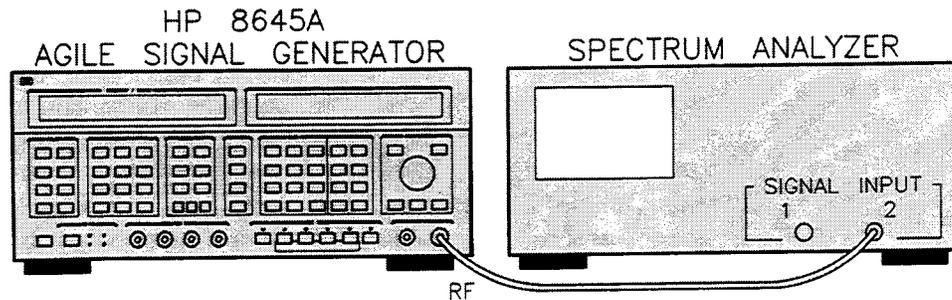

Figure 2-3. Equipment Setup for FM Procedure #1.
1. Connect the HP 8645A to the Spectrum Analyzer as shown in figure 2-3. Turn on the equipment, and make the following adjustments to the Spectrum Analyzer: